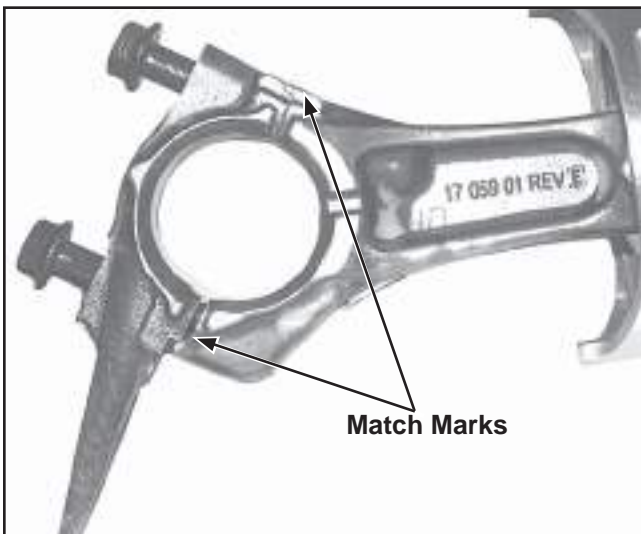

**Figure 11-24. Installing Piston Using a Ring Compressor.**
5. Ensure "∇" stamping on piston is facing down toward the base of the engine. Use a hammer handle or rounded wood dowel and gently tap the piston into the cylinder as shown in Figure 11-24. Be careful that the oil ring rails do not spring free between the bottom of the ring compressor and the top of the cylinder.